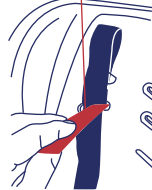

Fig. 32-3
- 12.2.6) Using the included Belt Threading Tool, insert the Harness Straps through the Slots selected in step (12.2.2) above in the seat pad and the seat shell, respectively. (See Figure 32-3)